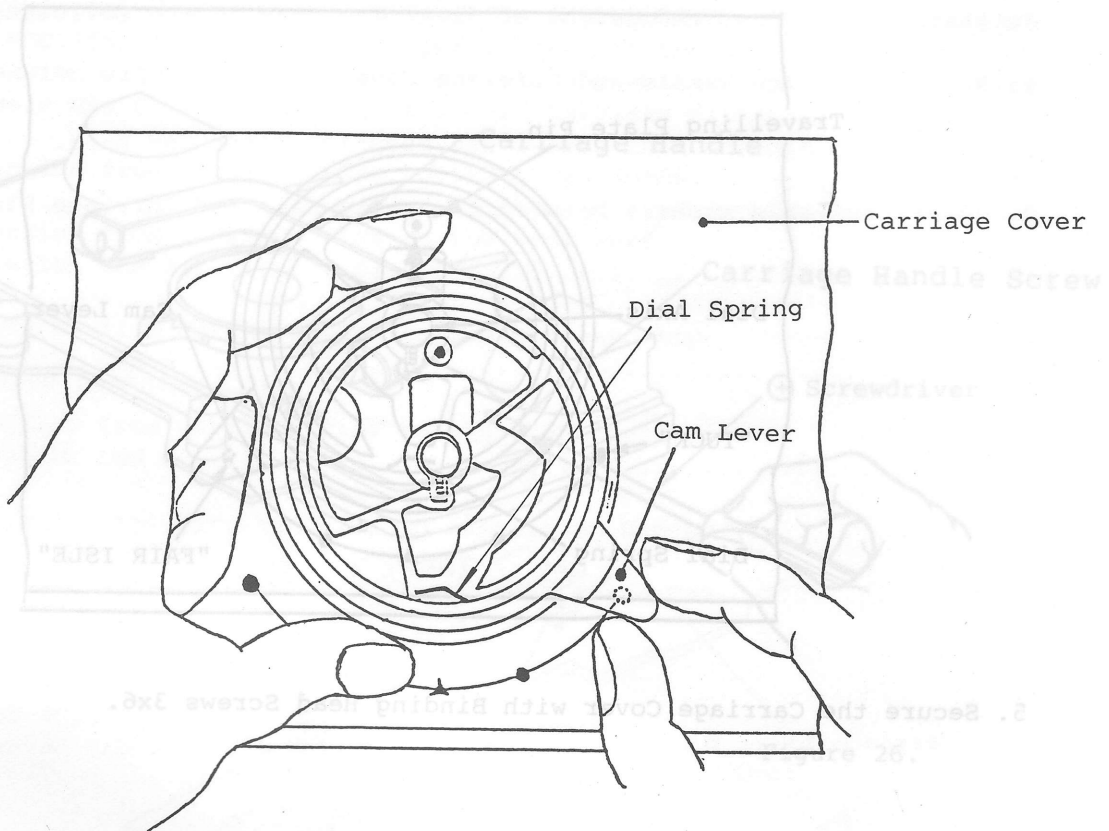

Figure 23.
3. Hold the Cam Lever as shown in Figure 23. Slightly lift up Cam Lever, and return it to "Fair Isle" so that Moving Plate Pin enters the slot on the underside of Cam Lever.